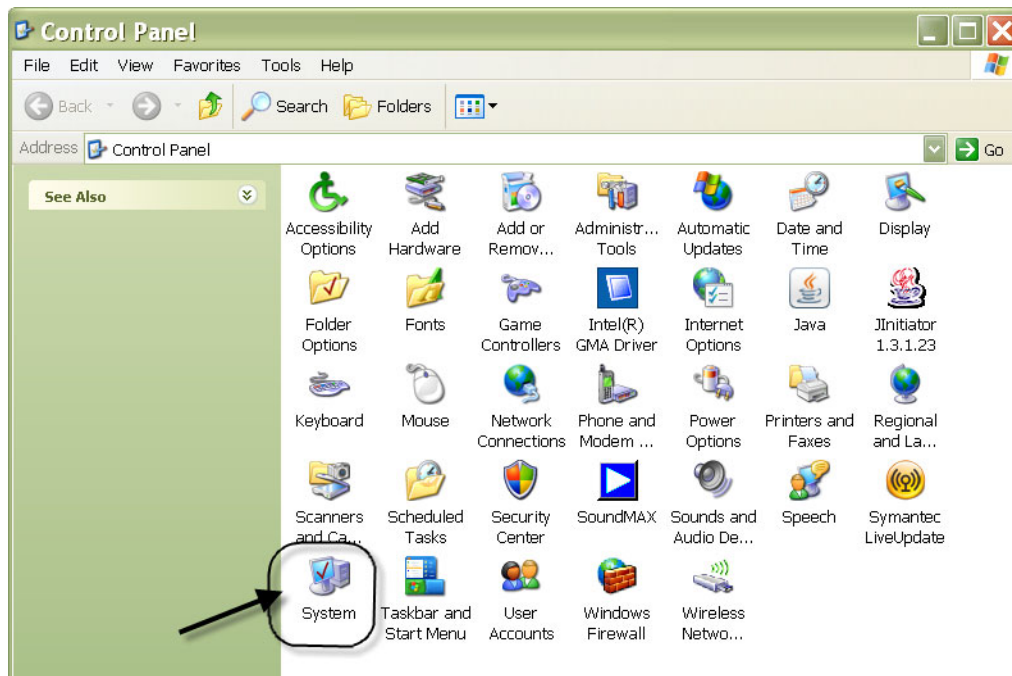

FIG. 230
2. The Control Panel is shown in FIG. 230.